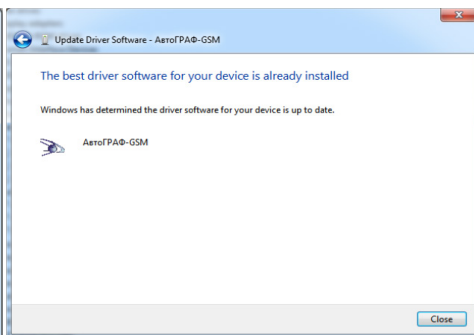

Fig.4.
5. Install the driver. When the driver is installed the system will automatically identify connected device (Fig.4).